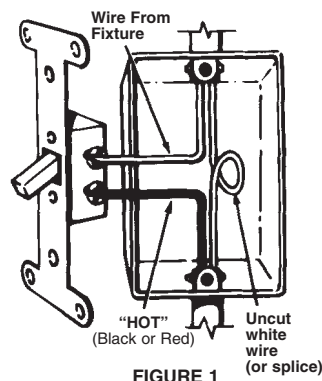

FIGURE 1
2. Remove wall plate and disconnect light switch. **Make sure both "hot" and neutral wires are present in the junction box.** (See Fig. 1.). If both wires are not present, additional wiring will be necessary before installation can be completed.